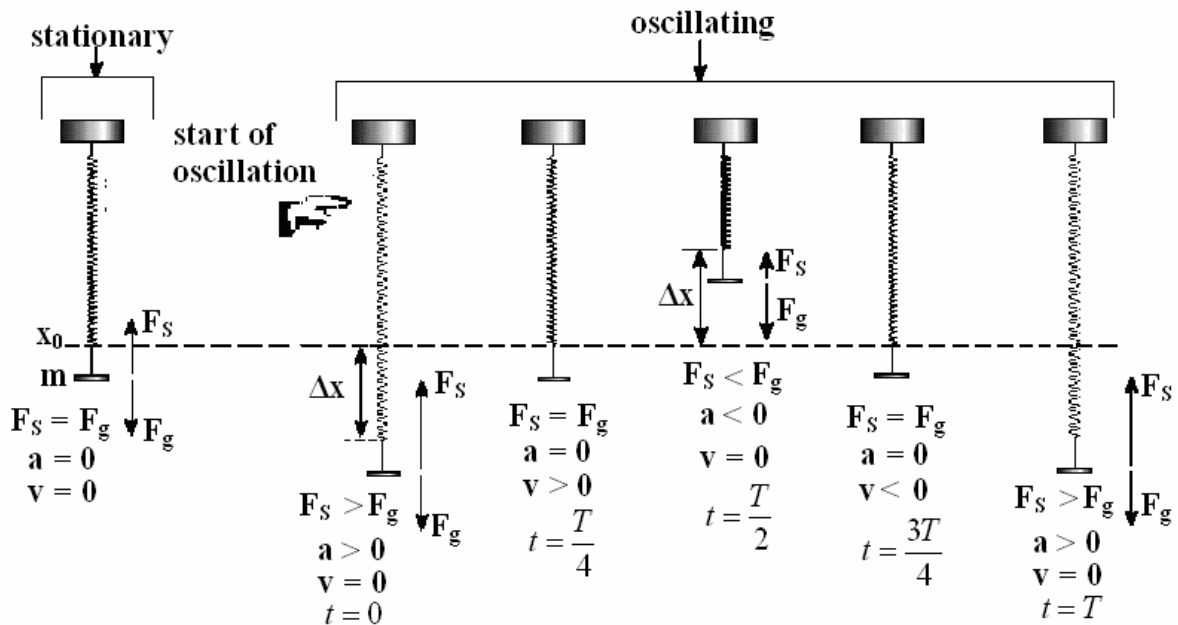

Figure 2: One Cycle of an Oscillation of the Spring
The position where the mass is at rest is called the equilibrium position ($x = x_0$). As we now know, the downward force due to gravity $F_g = mg$ and the force due to the spring pulling upward $F_s = -k\Delta x$ cancel each other. This is shown in the first part of Figure 2. However, if the string is stretched beyond its equilibrium point by pulling it down and then releasing it, the mass will accelerate upward ($a > 0$), because the force due to the spring is larger than gravity pulling down. The mass will then pass through the equilibrium point and continue to move upward. Once above the equilibrium position, the motion will slow because the net force acting on the mass is now downward (i.e. the downward force due to gravity is constant
while the upwardly directed spring force is getting smaller. The mass and spring will stop and then its downward acceleration will cause it to move back down again. The result of this is that the mass will oscillate around the equilibrium position. These steps and the forces (F), accelerations (a) and velocities (v) are illustrated in Figure 2 for the first complete cycle of an oscillation. The oscillation will proceed with a characteristic period, T, which is determined by the spring constant and the total attached mass. This period is the time it takes for the spring to complete one oscillation, or the time necessary to return to the point where the cycle starts repeating (the points where x, v, a, are the same). One complete cycle is shown in Figure 2 and the time of each position is indicated in terms of the period T.